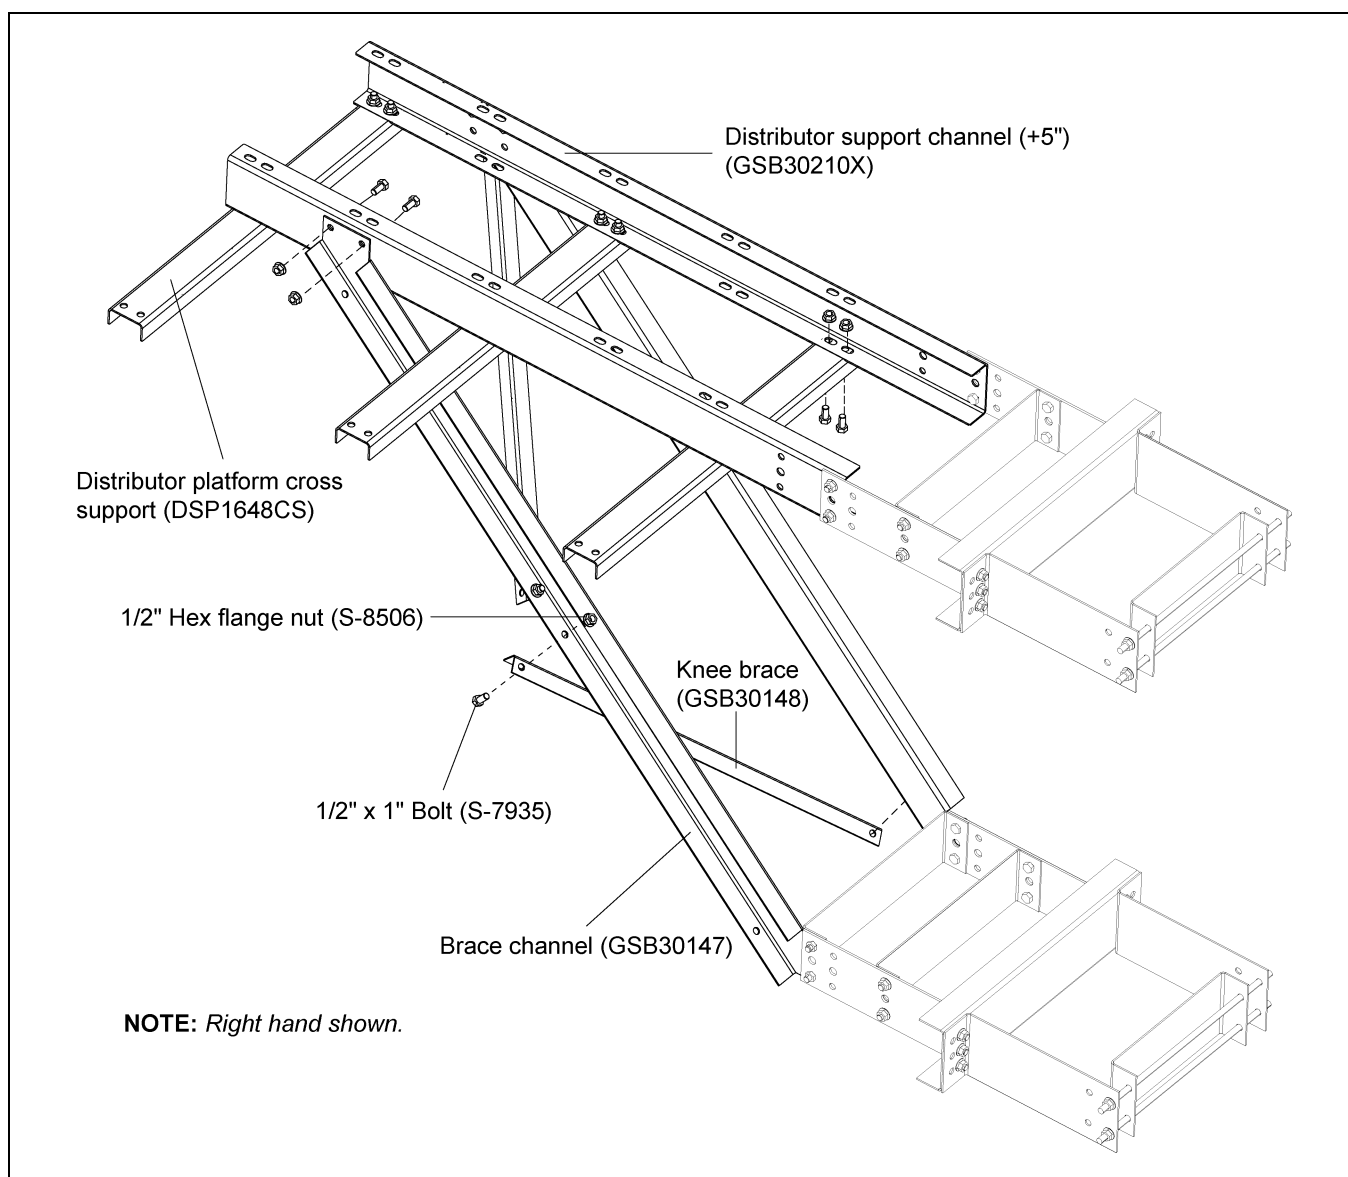

Figure 12F Distributor Platform Cross Support
1. Attach brace channels to the sides of the support channels using four (4) 1/2" x 1" bolts and nuts. Angle the knee braces across the bottom sides of the brace channels and attach using four (4) 1/2" x 1" bolts and nuts.
2. Assemble the cross supports to the bottom side of the support channels using the end and middle sets of holes on the support channels using four (4) 1/2" x 1" bolts and nuts. *(See Figure 12F.)*